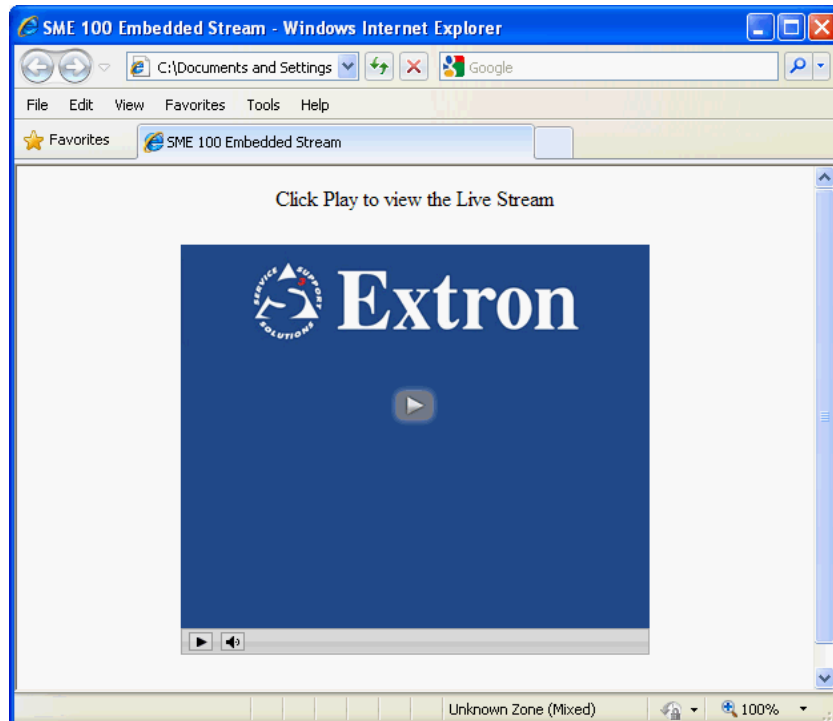

Figure 79. Resulting Web Page
7. Double-click on the saved HTML document to see what the web page looks like (see figure 79).